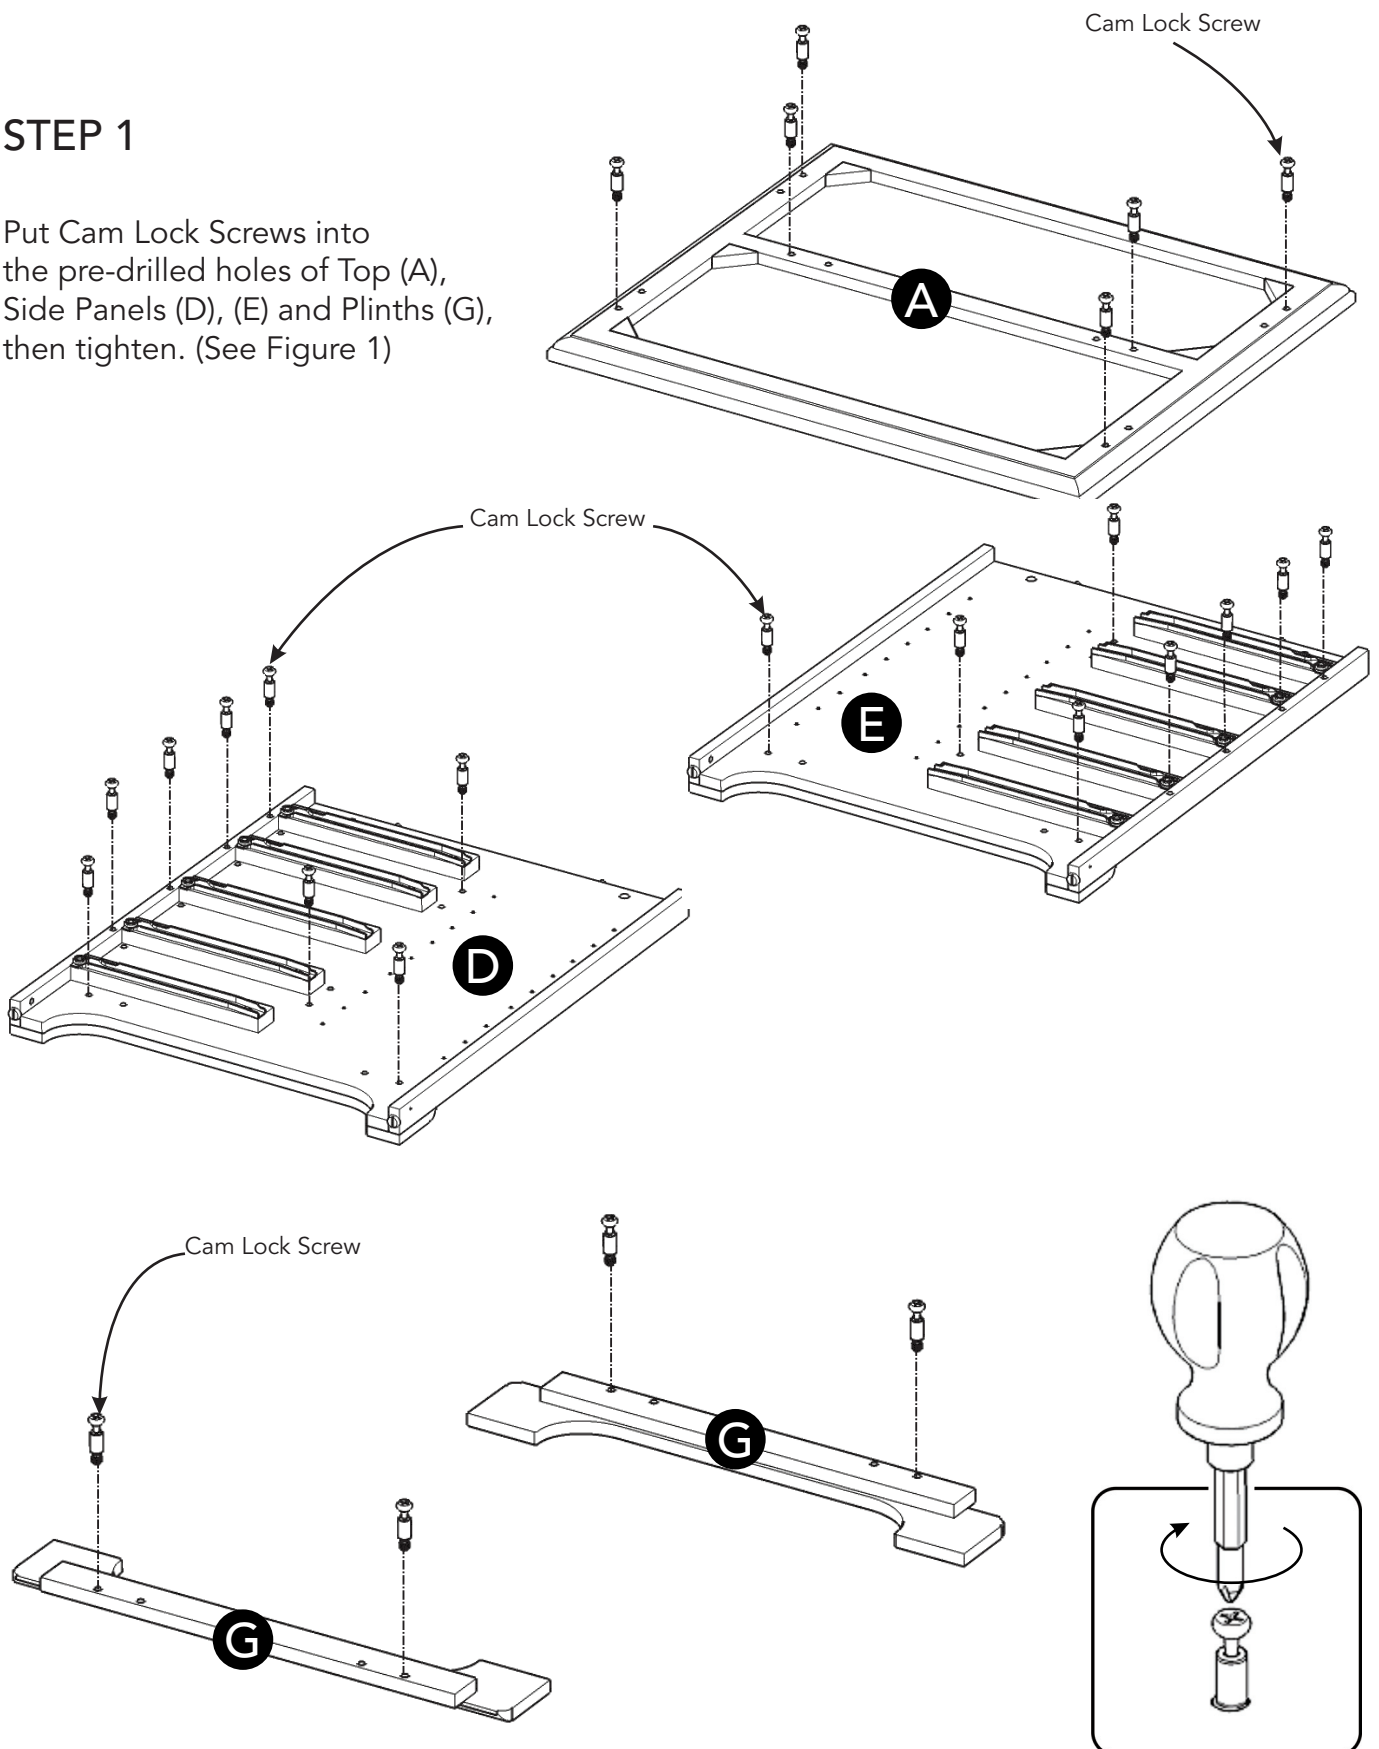

Figure 1
Put Cam Lock Screws into the pre-drilled holes of Top (A), Side Panels (D), (E) and Plinths (G), then tighten. (See Figure 1)